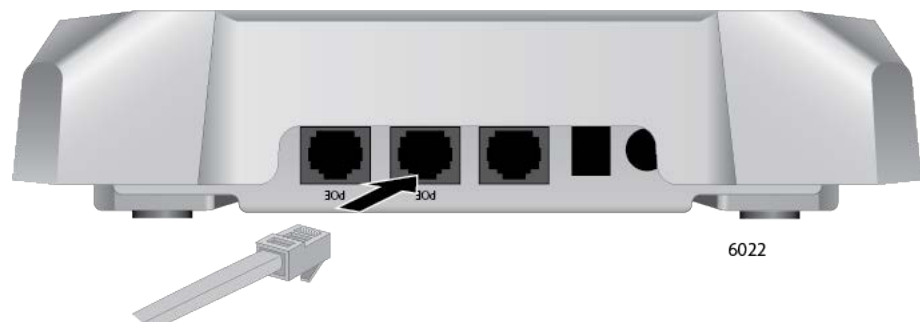

Figure 22. Connecting an Ethernet Cable to the LAN1 Port
1. To cable LAN1 port, connect an Ethernet cable into the port. The cable requirements are in “Cable Requirements” on page 21. Refer to Figure 22.